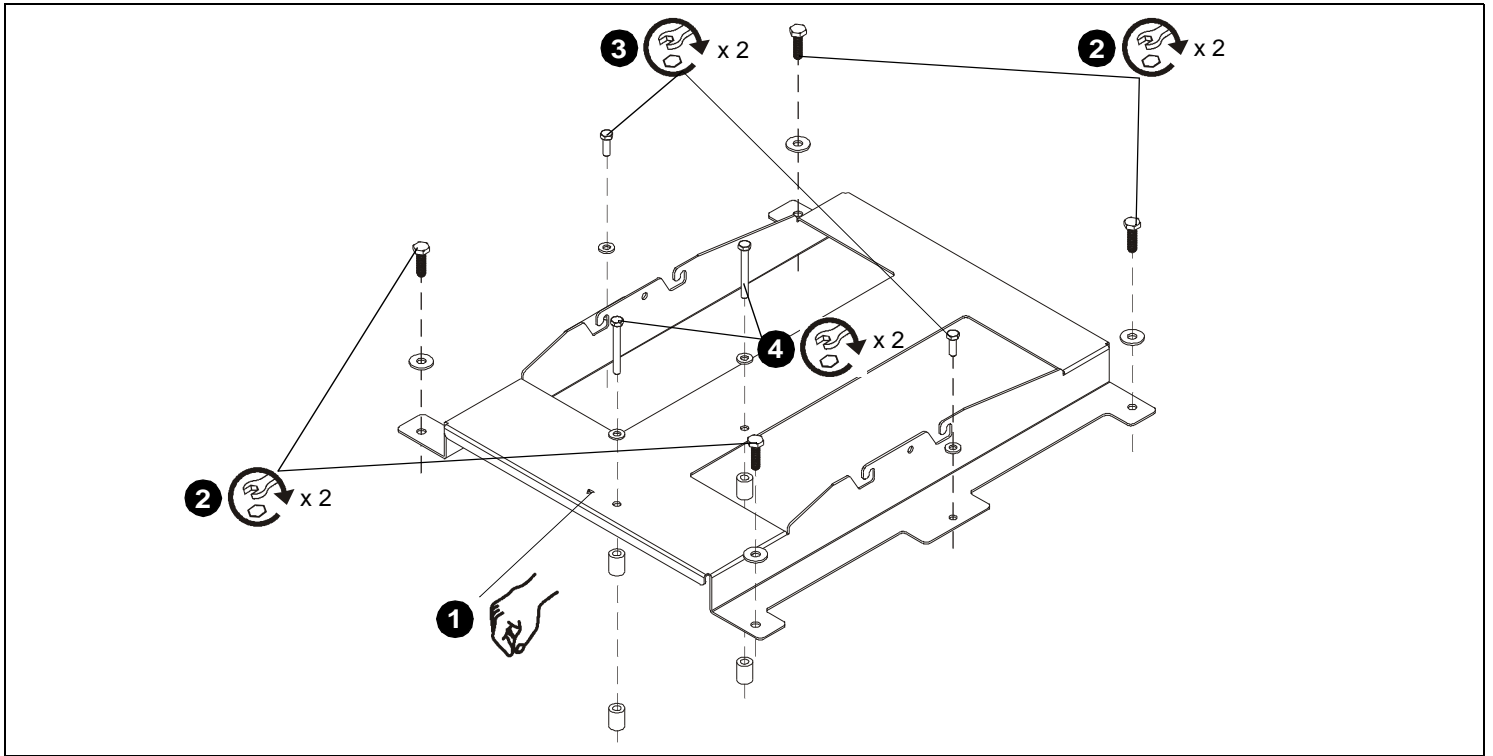

Figure 1
1. Lower custom HB bracket onto top of projector. Ensure that triangle in bracket points toward front of projector. (See Figure 1)
2. Attach HB bracket to projector using four M10 x 35mm hex head screws through four M10 washers and four outer corner holes in the HB bracket. (See Figure 1)
3. Continue attaching bracket to projector using two M8 x 25mm hex head screws through two M8 washers into two outer center holes in bracket. (See Figure 1)
4. Finish attaching bracket to projector using two M8 x 70mm hex head screws through four nylon spacers (2 spacers per hex head screw) and two M8 washers into two center holes in bracket. (See Figure 1)